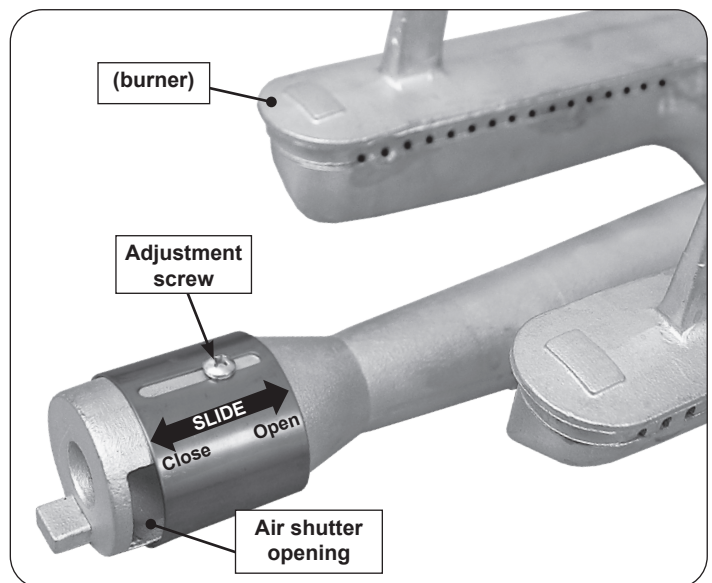

Fig. 37-2 Main burner air shutter adjustment detail
1. To adjust the air shutter, loosen the adjustment screw with a Phillips screwdriver. Then slide the shutter to open or close it. See Fig. 37-2 for details.